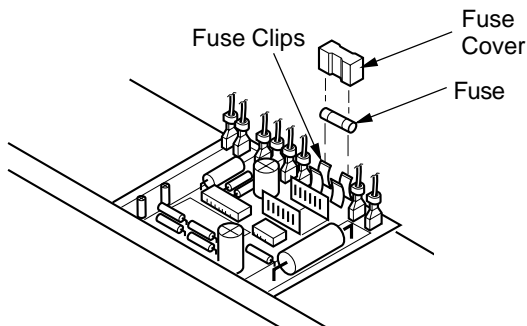

Figure 32 - Replacing Fuse
2. Remove side cover screws (4) using 5/16" nut-driver to expose ignition control assembly.
3. Remove fuse cover (see Figure 32).
4. Remove fuse from fuse clips (see Figure 32).
6. Replace fuse cover (see Figure 32).